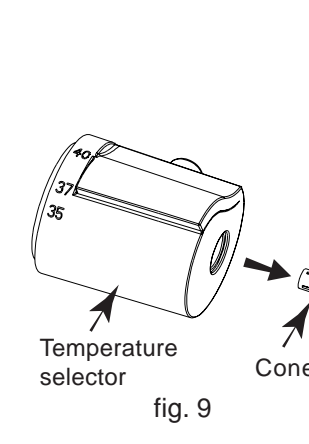

fig. 9
- When you change the thermostatic cartridge or the valve, pull out the cone of the handle with a pencil (for instance) (fig. 9).